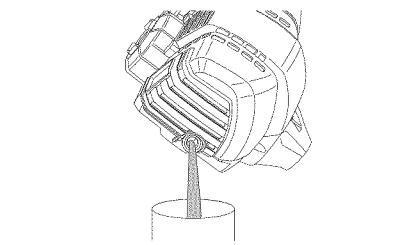

Fig. 31
2. Pour the oil out of the oil fill hole and into a container by tipping the unit to the side (Fig. 31). Allow ample time for complete drainage.